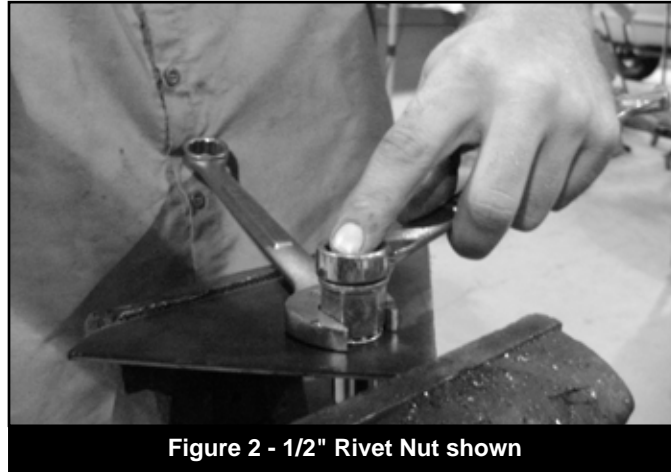

Figure 2 - 1/2" Rivet Nut shown
3. Install the new traction bar axle bracket (01802) on the rear axle with a  $\frac{1}{2}$ " x  $3\text{-}1/2$ " x  $4\text{-}1/2$ " u-bolt, nuts and  $\frac{1}{2}$ " SAE washers. Position the bracket so it is against the inboard spring u-bolt and the top edges on the bracket are approximately parallel to the axle spring perch (Fig 2, 3). Torque the u-bolt to 75 ft-lbs.